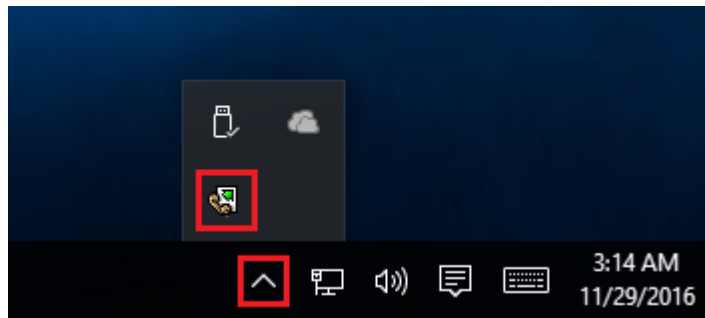

Fig. 6.1.2 Sys tray - panel near clock
- **Start in minimized state** - at start Advanced NMEA Data Logger will automatically put its icon on panel near clock (SysTray fig. 6.1.2);